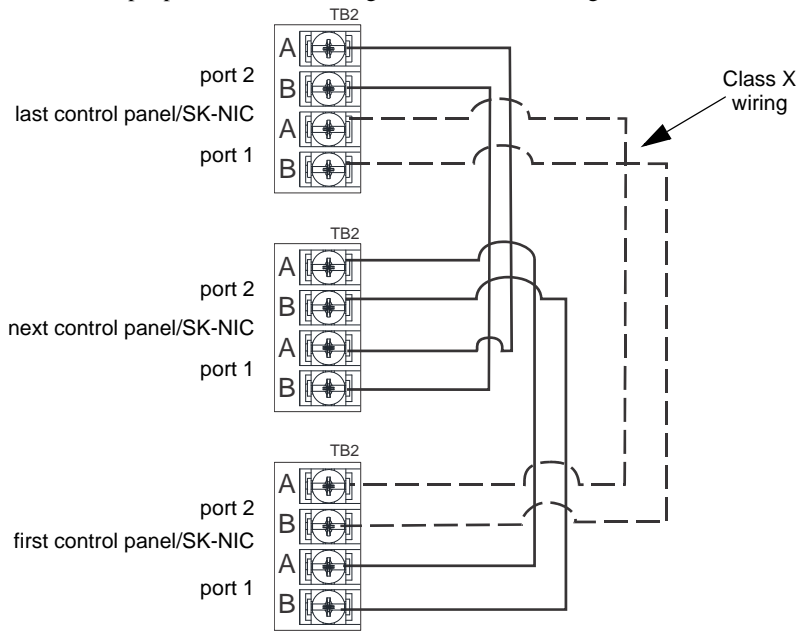
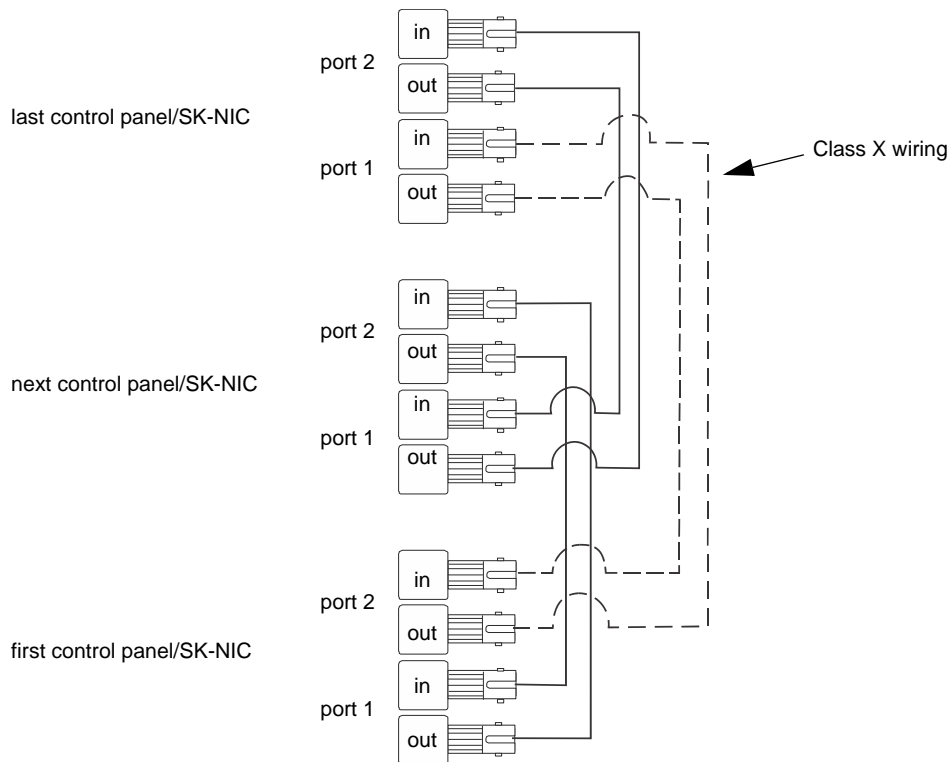
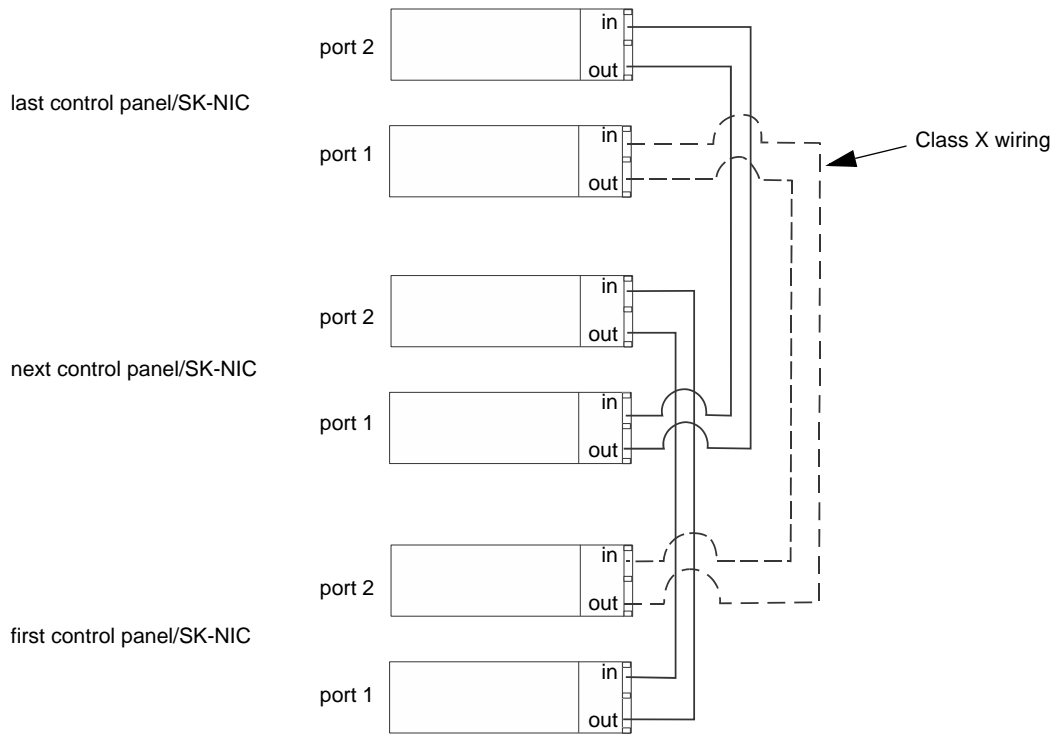
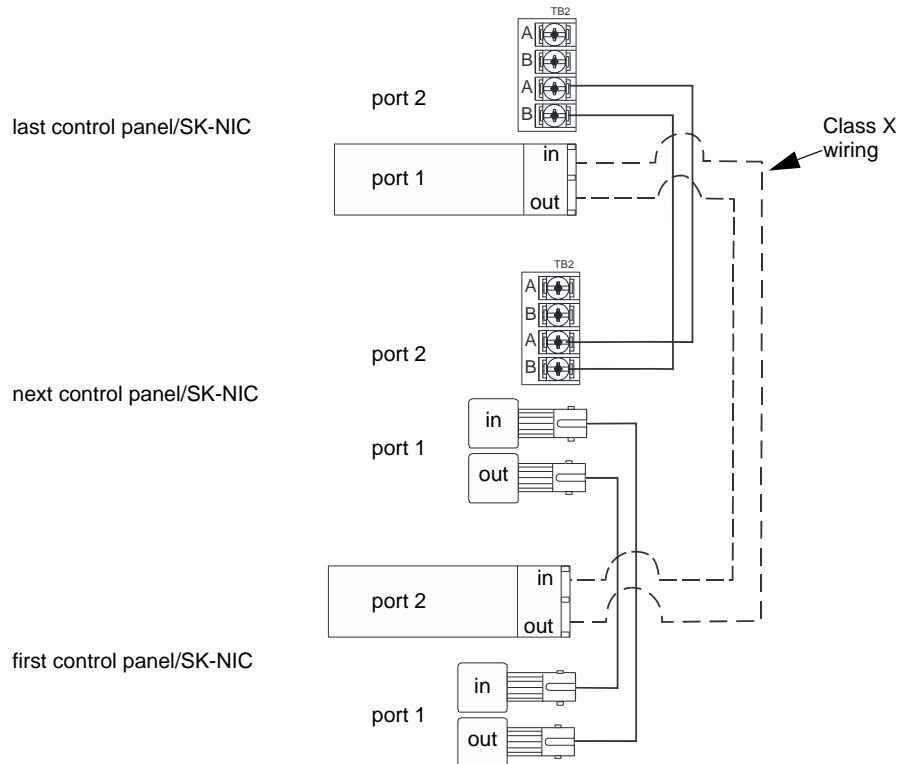

Figure 5.7 Twisted Pair Wiring Configuration
Figure 5.8 Fiber-Optic Wiring Multi-Mode Example
Figure 5.9 Fiber-Optic Wiring Single-Mode Example
Figure 5.10 Twisted-Pair and Fiber-Optic Combination Wiring Example
5. Based on the type of data medium chosen, run the twisted pair wiring/fiber optic cable to the next SK-NIC using a class B or class A wiring method. A combination of both medium types can be used. See Figure 5.7, Figure 5.8, Figure 5.9, and Figure 5.10 for SK-NIC wiring examples.
Unshielded twisted pair wiring between multiple panels is shown in Figure 5.7. Class X wiring is shown with a dotted line.
Fiber optic cable between multiple panels is shown in Figure 5.8 and Figure 5.9. Class X is shown with a dotted line.
A mixture of fiber optic cable and twisted pair wiring between multiple panels is shown in Figure 5.10. Class X cabling is shown with dotted line.